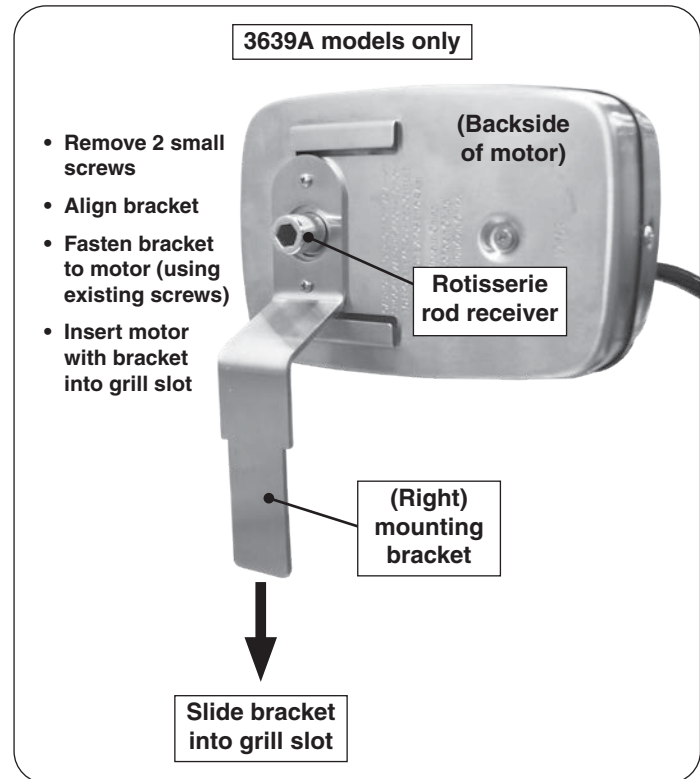

Fig. 2-1 Install bracket to rotisserie motor (3639A models only)
2. Align the **right** mounting bracket over the rotisserie rod receiver and two small screw holes. Then fasten the bracket to the motor using the existing screws. See Fig. 2-1.